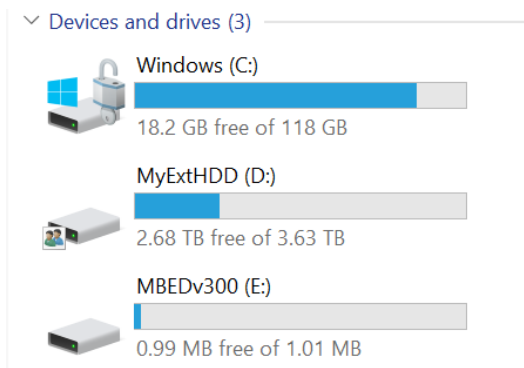

Figure 11: The programmer board displays as a flash drive
4. The programmer board now appears as a flash drive on your PC (labeled as MBEDvXXX); **XXX** is the QPK-NRF5X firmware version number (Figure 11).